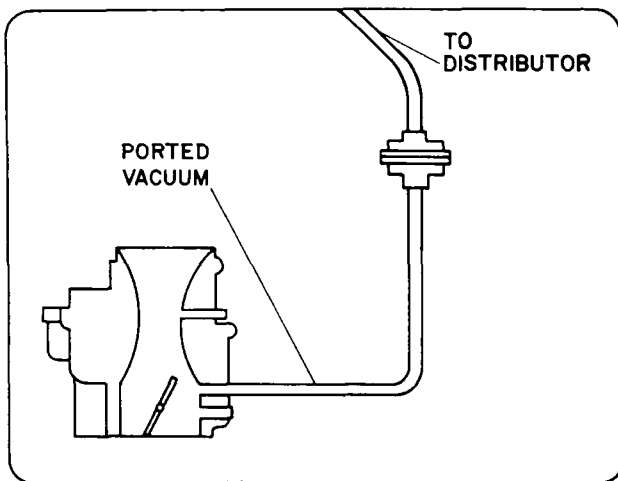

Figure 9-9
e) Figure 9-9 shows the system with the solenoid vacuum valve in place.